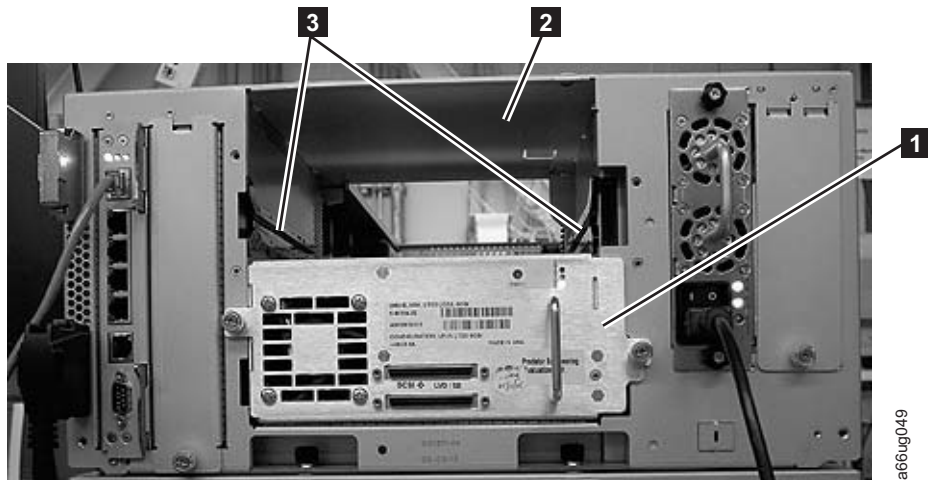

Figure 3-37. Guide rails and guide slots inside a drive slot
1. Align the drive sled with the guide rails and guide slots along the tracks (**3** in Figure 3-37).